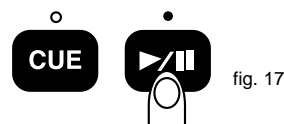

fig. 17
- (1) Press PLAY/PAUSE BUTTON (22) so a CD is playing. The PLAY/PAUSE BUTTON'S LED lights (figure 17).